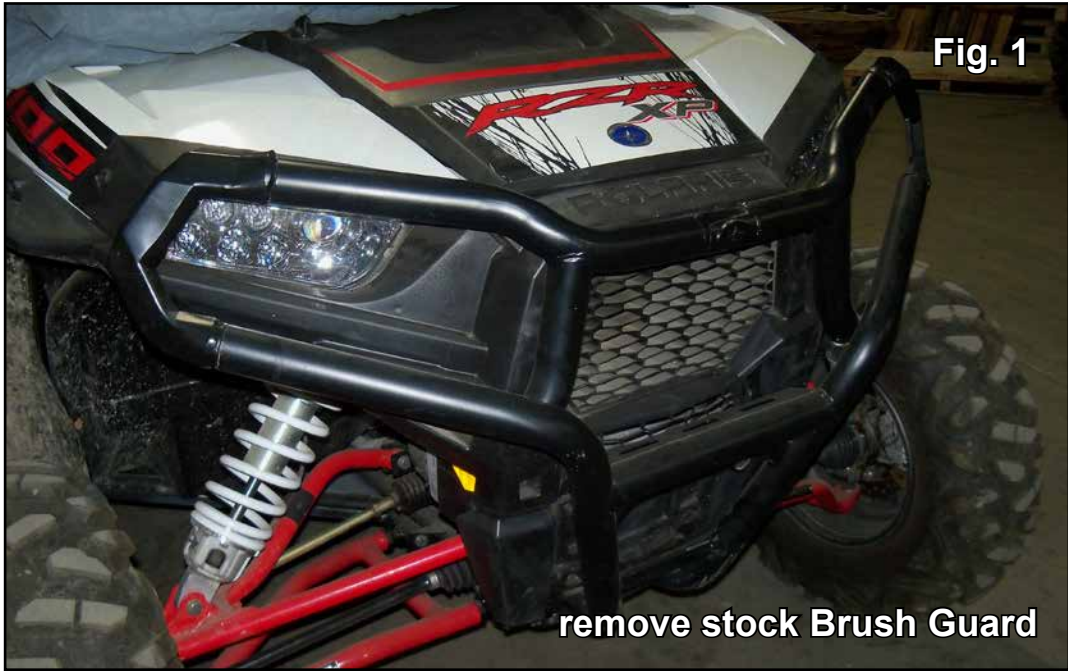

Fig. 2
- Secure lower section to Frame with M8-1.25 x 25mm Lg. FHCS and M8-1.25 Nylock Nuts. See Figs. 2 - 2a.
- Secure upper section to Frame with M12-1.75 x 25mm Lg. FHCS and M12 Lock Washers. See Figs. 2- 2a.